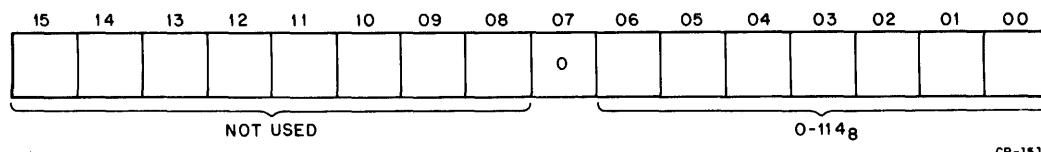

Figure 3-2 RXTA Format (RX11)
**3.2.2.1 RXTA – RX Track Address (Figure 3-2)** – This register is loaded to indicate on which of the  $115_8$  tracks a given function is to operate. It can be addressed only under the protocol of the function in progress (Paragraph 3.3). Bits 8 through 15 are unused and are ignored by the control.